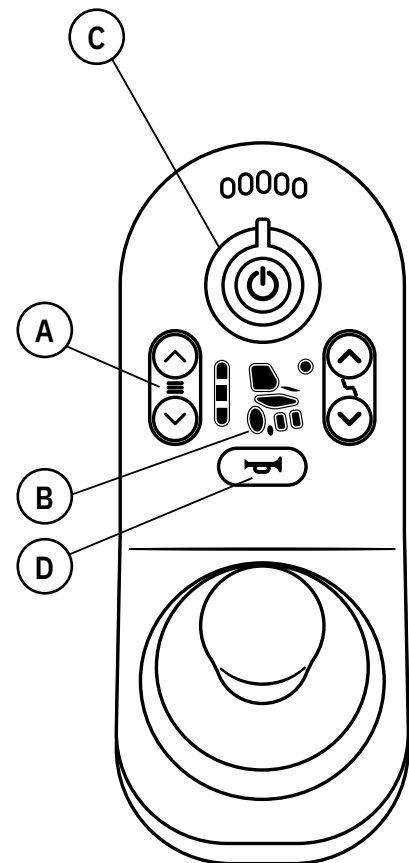

Figure 5.6. Controls for driving functions on the LiNX REM211.
Controls for driving functions are illustrated in Figure 5.6.
- Press the buttons (A); see Figure 5.6 for driving profile selection. The selected driving profile is indicated on the display with one, two or three lit LEDs.